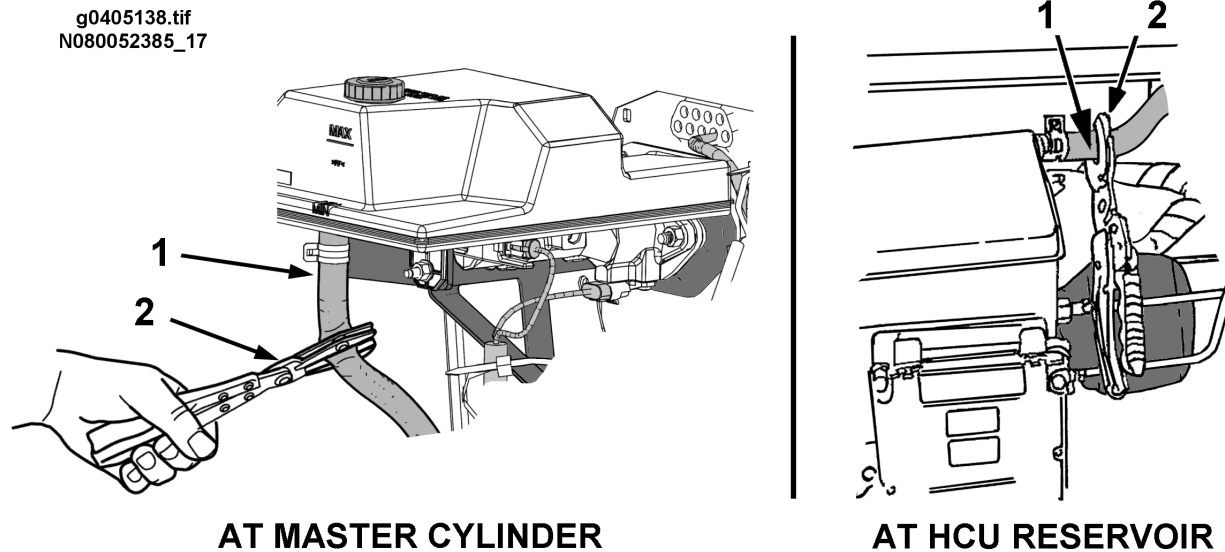

Figure 38 Clamping the Low Pressure Hose
9. Use a clamp to pinch the low pressure hose at the inlet to the HCU reservoir. Place the clamp midway between the HCU reservoir inlet and the crossmember, being careful not to damage the reservoir inlet. In some vehicle applications the rubber section of the low pressure hose is too short to provide a leakproof clamp at this location. If necessary, clamp the low pressure hose 4 or 5 inches below the master cylinder outlet. Refer to FIGURE 38 (See Figure 38, page 79).